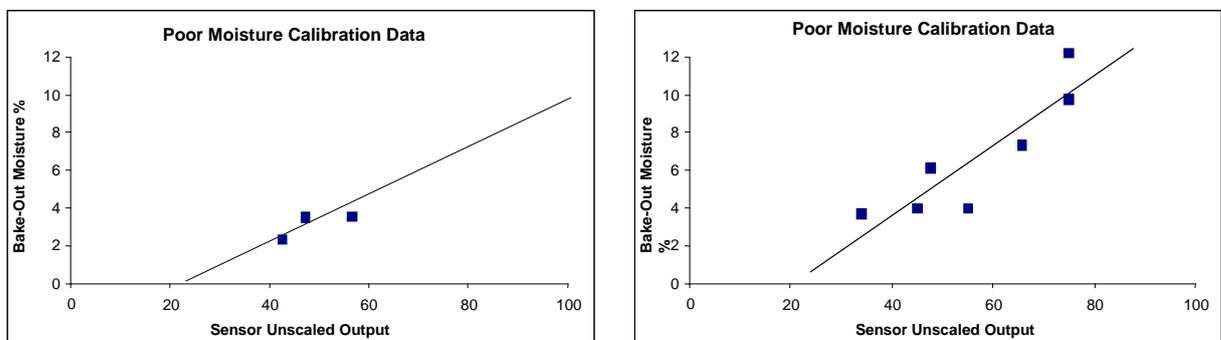

Figure 19 - Examples of Poor Material Calibration Points
- Samples are taken close to the same moisture content (Figure 19, left). A good range is necessary.
- There is a large scatter in the readings as shown in the calibration graph Figure 19 (right). This generally implies an unreliable or inconsistent approach to taking samples for oven drying or poor sensor positioning with inadequate material flow over the sensor.